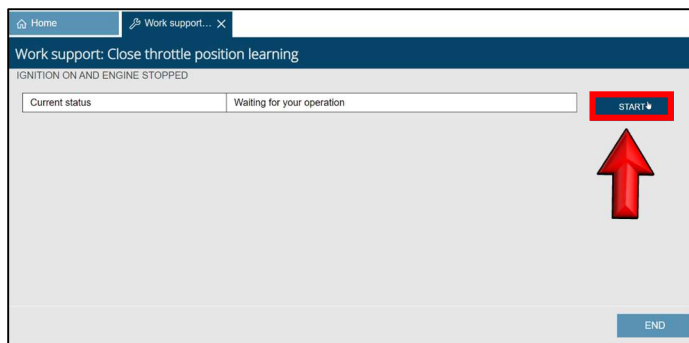

Figure 26
27. Select **Start** and wait until the “Completed” is displayed. (Figure 26)
- Turn the ignition OFF by pressing the push button ignition switch (1) one time